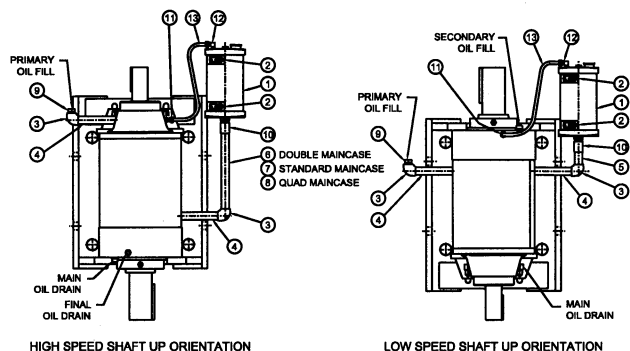
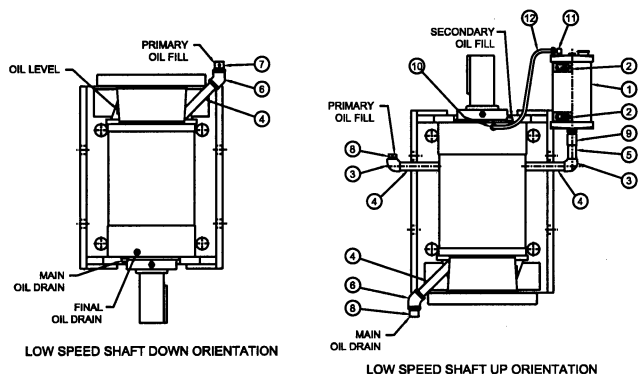

Figure 7.1a Vertical Service Shaft Orientations (Standard Reducers)
Figure 7.2a Vertical Service Shaft Orientations (C-Face or IEC Reducers)
Assemble components as shown in **Figure 7.1a & Table 7.1b, and Figure 7.2a & Table 7.2b.** It is difficult to determine all potential field installation interference points. If necessary please substitute different pipe fittings as required. In doing so, it is important that the bottom of the reservoir is at or above the uppermost bearing. Holes have been drilled by the factory to facilitate both right hand or left hand oil reservoir mounting. Apply pipe sealant to all threaded connections during assembly.
1. Begin by filling the reducer thru the primary oil fill in the maincase until full. Reference **Figure 7.1a**.
1. Begin by draining oil from main oil drain in maincase. Reference **Figure 7.1a**.